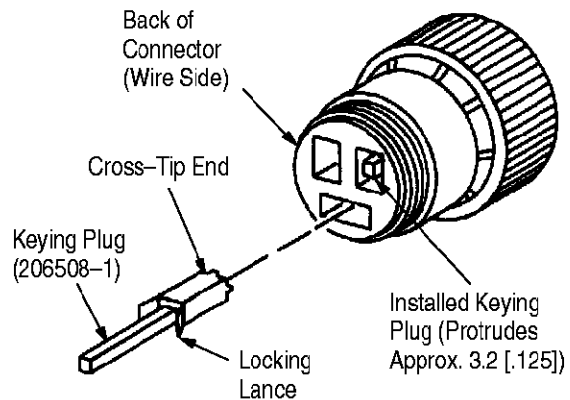

Figure 13
11.3. Keying Series 3 Connectors (Figure 13)
11.4. Keying Series 4 Connectors (Figures 13 and 11)